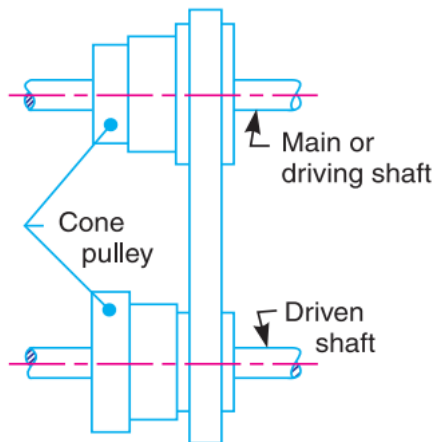

Fig. 11.8. Stepped or cone pulley drive.
6. Stepped or cone pulley drive. A stepped or cone pulley drive, as shown in Fig. 11.8, is used for changing the speed of the driven shaft while the main or driving shaft runs at constant speed. This is accomplished by shifting the belt from one part of the steps to the other.